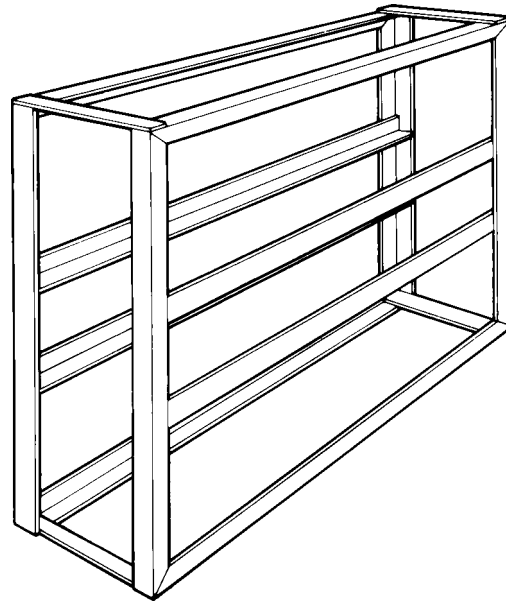

Fig. 7 - Typical Safety Cage
1. If the tyre is off the machine, it should be placed in a safety cage before inflating. See Fig. 7.